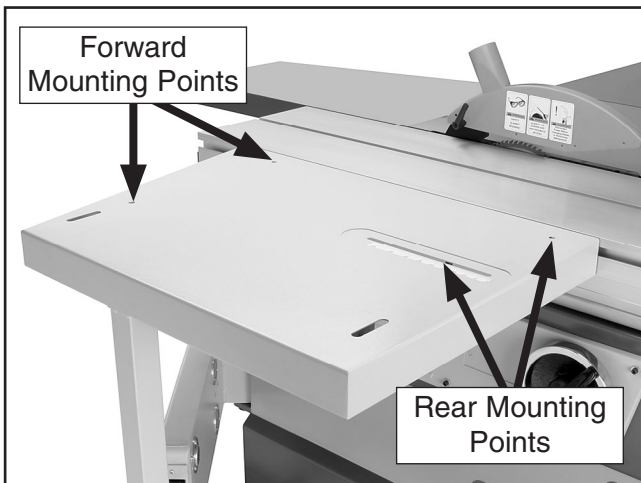

Figure 60. Crosscut fence mounting points.
1. Install the crosscut fence in the forward mounting points shown in **Figure 60** and lock it in place.
1. Install the crosscut fence in the rear mounting points shown in **Figure 60** and lock it in place.